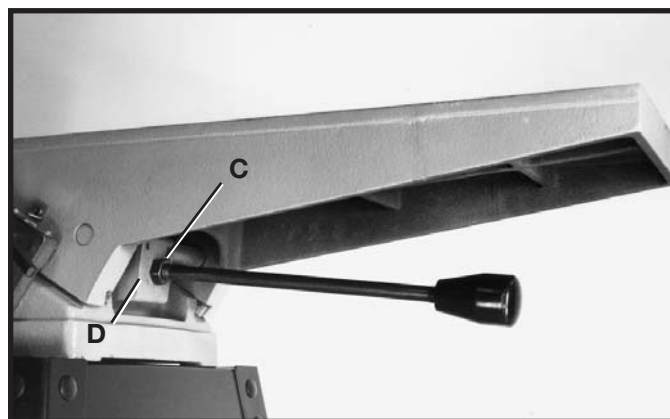

Fig. 13
3. Turn locknut (C) Fig. 13 clockwise to tighten against block (D).